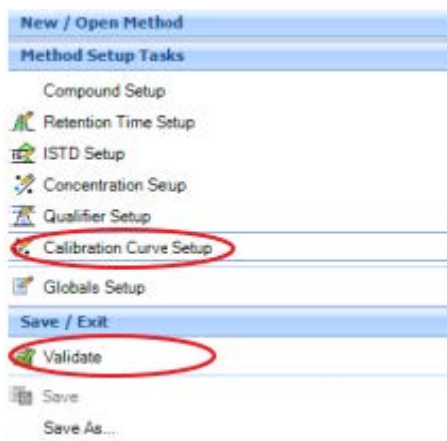

Fig.18
- h. Calibration curve setup to choose the type of curve. And Validate method to see if there is some error (Fig.18).